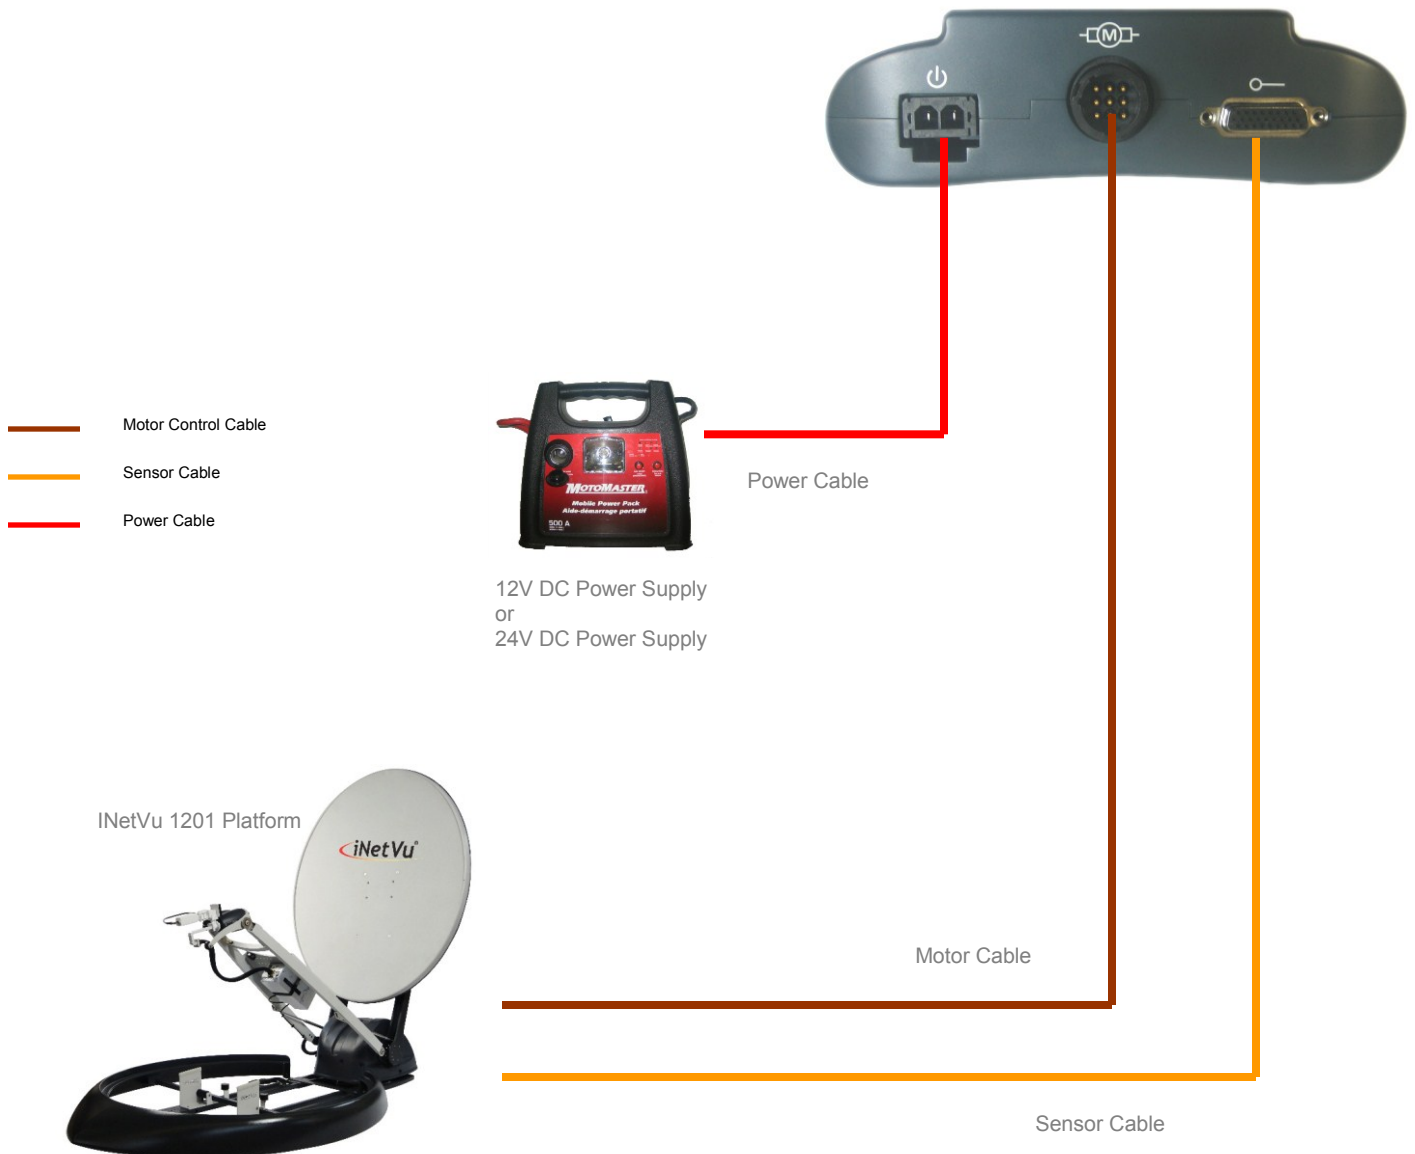

Fig. 5: Typical Connection Configuration
1. Connect all of the cables and components as depicted by Fig. 5 & 6. In the previous section.